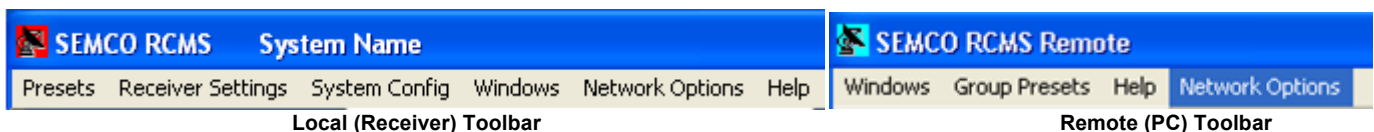

Figure 6-40
The RCMS GUI Toolbars allow the user to select a variety of functions and features as pull-down menus or displays. Several of these Toolbar functions and features have already been addressed in previous sections and paragraphs. These Toolbar headings are depicted in Figure 6-40 and summarized on subsequent pages.
Remote (PC) Tool Bar (Figure 6-40) selections are illustrated and described in detail in paragraph 5.2.2 of this manual and include: